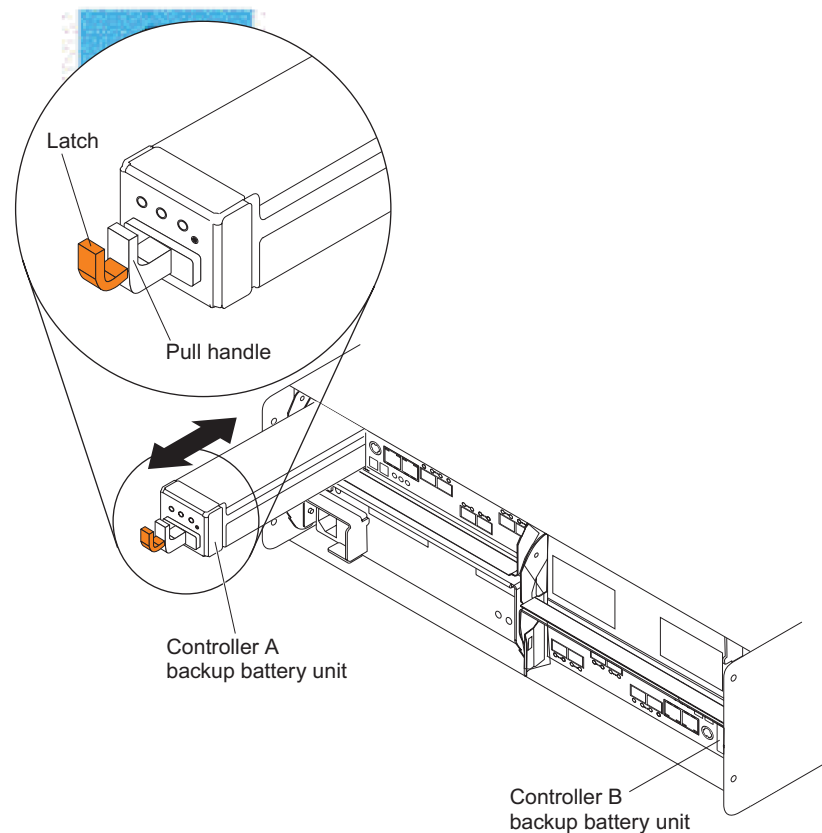

Figure 86. Removing and replacing a battery unit from the controller chassis
5. To remove the failed battery unit from the RAID controller, press the orange battery unit latch toward the black battery handle to unlatch the battery from the DS5020 chassis and slowly pull the battery unit from the controller chassis using the handle, as shown in Figure 86.